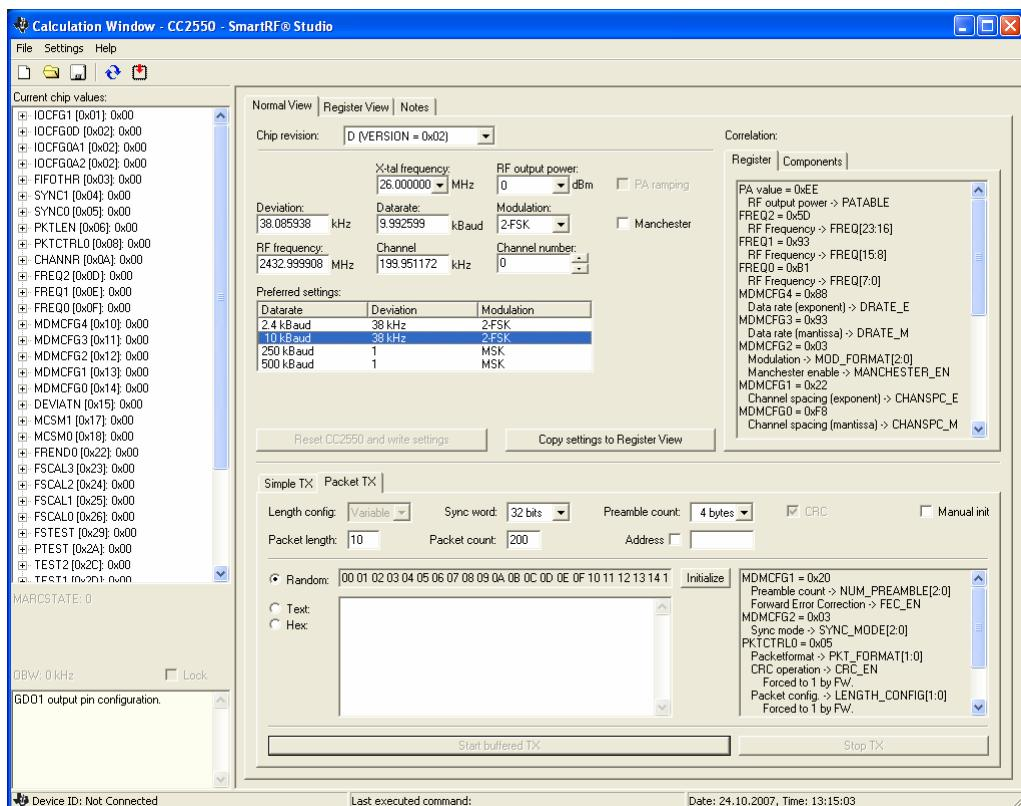

Figure 5: SmartRF® Studio [4] User Interface
**CC2550** can be configured using the SmartRF® Studio software ([4]). The SmartRF® Studio software is highly recommended for obtaining optimum register settings, and for evaluating performance and functionality. A screenshot of the SmartRF® Studio user interface for **CC2550** is shown in Figure 5.